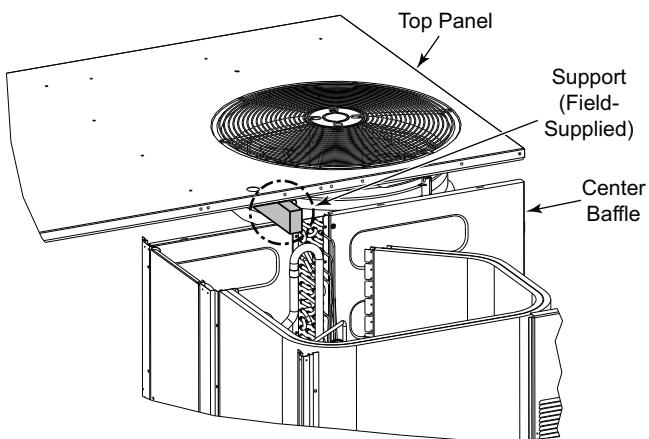

Fig. 17 – Top Panel Position
3. Lift and rotate the top panel at the condenser fan end and rotate the panel 90 degrees. Support the top panel so it remains level while resting on the condenser fan as shown in Fig. 17.